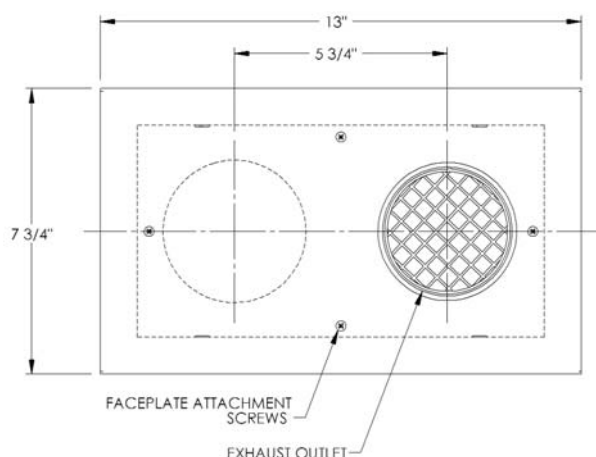

Figure 1
2. Separate the vent terminal backing plate from the face by removing the four (4) screws. Refer to Figure 1.